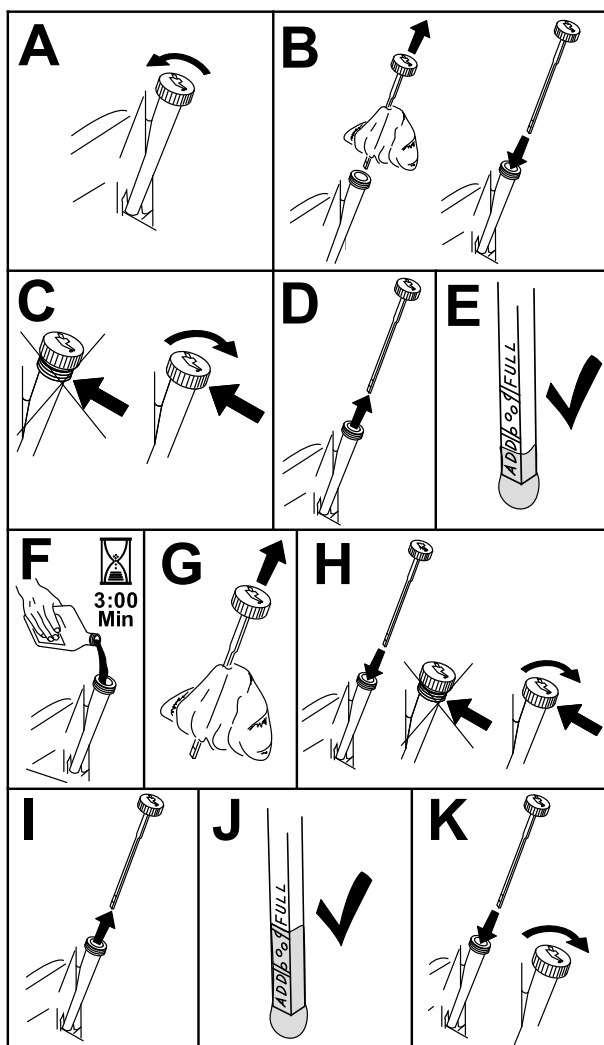

Figure 34
- 3. To keep dirt, grass clippings, etc., out of the engine, clean the area around the oil-fill cap and dipstick before removing it (Figure 34).